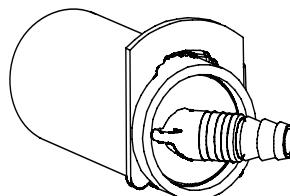

Figure 13
- Secure the drain elbow to the valve using the black "U" clip (also in the parts bag) by sliding it into the slots in the drain port and into the grooves in the drain elbow (see figure 13).